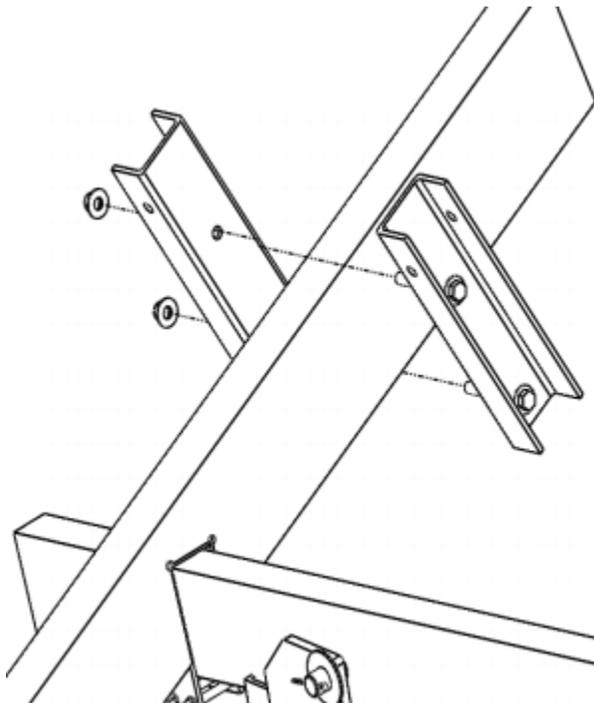

Figure 20
1. Align the 1/2" holes of the V-Bunk Brackets so that they are above and below the V-Bunk arm as shown in Figure 20.
2. Attach one (1) 1/2" Flat Washer over two (2) 1/2" Hex Bolts and insert them into the corresponding holes as shown in Figure 20.
3. Attach one (1) 1/2" Lock Washer and one (1) 1/2" Hex Nut over the protruding ends of the Hex Bolts and hand tighten.